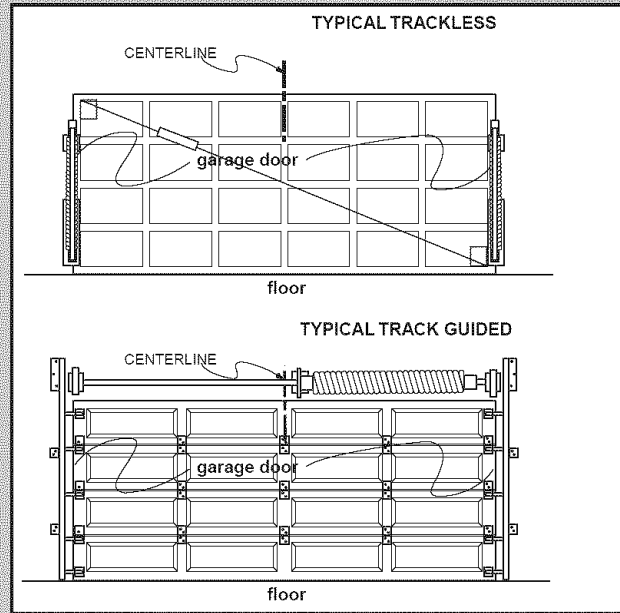

Fig. 2-1
- Measure this distance from side of door and draw a pencil line vertically from the top of the door down approximately 1 foot. This is the centerline. **Fig. 2-1.**
- Continue marking centerline on wall above door from top of door up approximately 1 foot. **Fig. 2-1.**